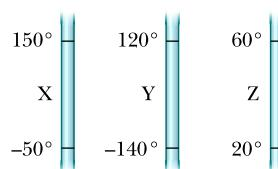

Figure 18.1 Question 2.
- 2** Figure 18.1 shows three linear temperature scales, with the freezing and boiling points of water indicated. Rank the three scales according to the size of one degree on them, greatest first.